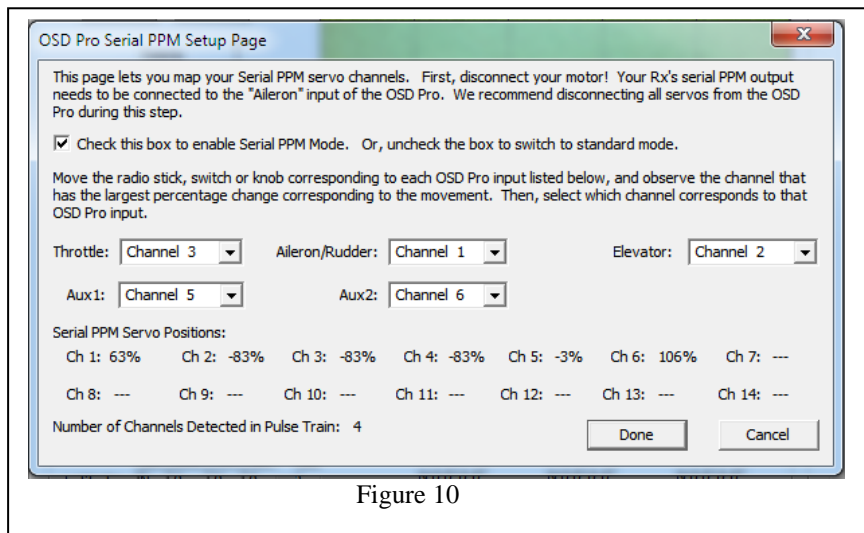

Figure 10
5) Invoke the OSD setup page again, and then click the "Serial PPM" button in the lower left-hand portion of the page. The page shown in Figure 10 should appear. This page has two main sections:
IMPORTANT: if you decide later to switch back to standard receiver connection mode, don't forget to turn off Serial PPM mode on the page shown in Figure 10, using the checkbox!